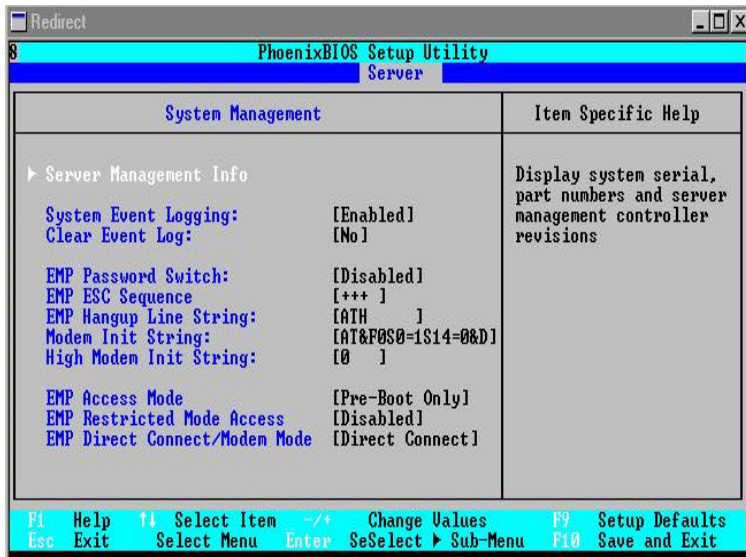

Figure 2: System Management Window
4. Use the down cursor arrow key to select "System Management" and press <Enter>. See Figure 2.